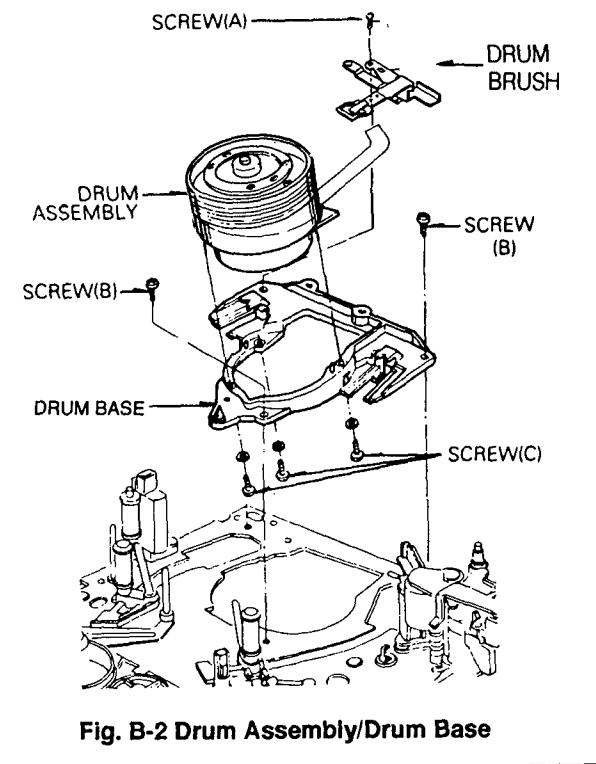

Fig. B-2 Drum Assembly/Drum Base
2. Drum Assembly and Drum Base (Fig. B-2)